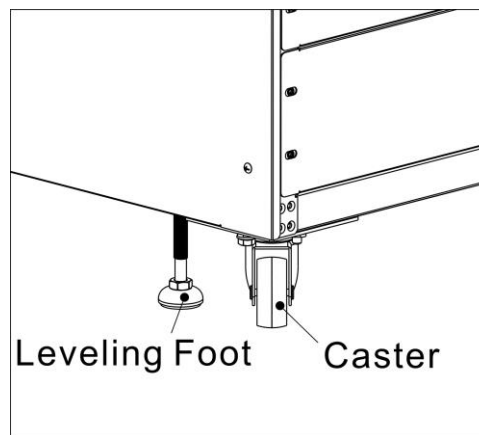

Figure 2-5
5. At the bottom of the UPS, the two casters help you to move the UPS to a designated area. Before you move the UPS, please turn the two leveling feet counterclockwise to raise them off the ground. This protects the leveling feet from damage when moving the UPS. Refer to Figure 2-5.